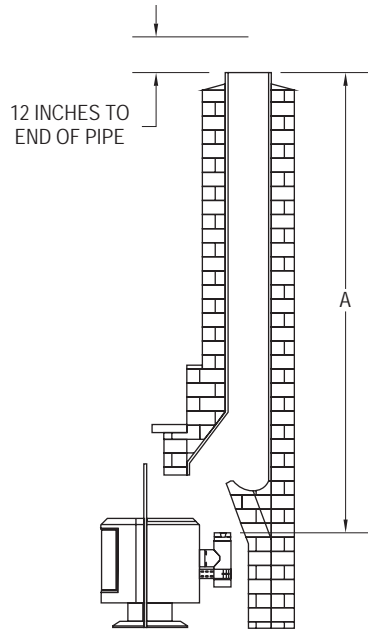

Figure 8
3. Measure and record the dimensions as shown in *Figure 8*.